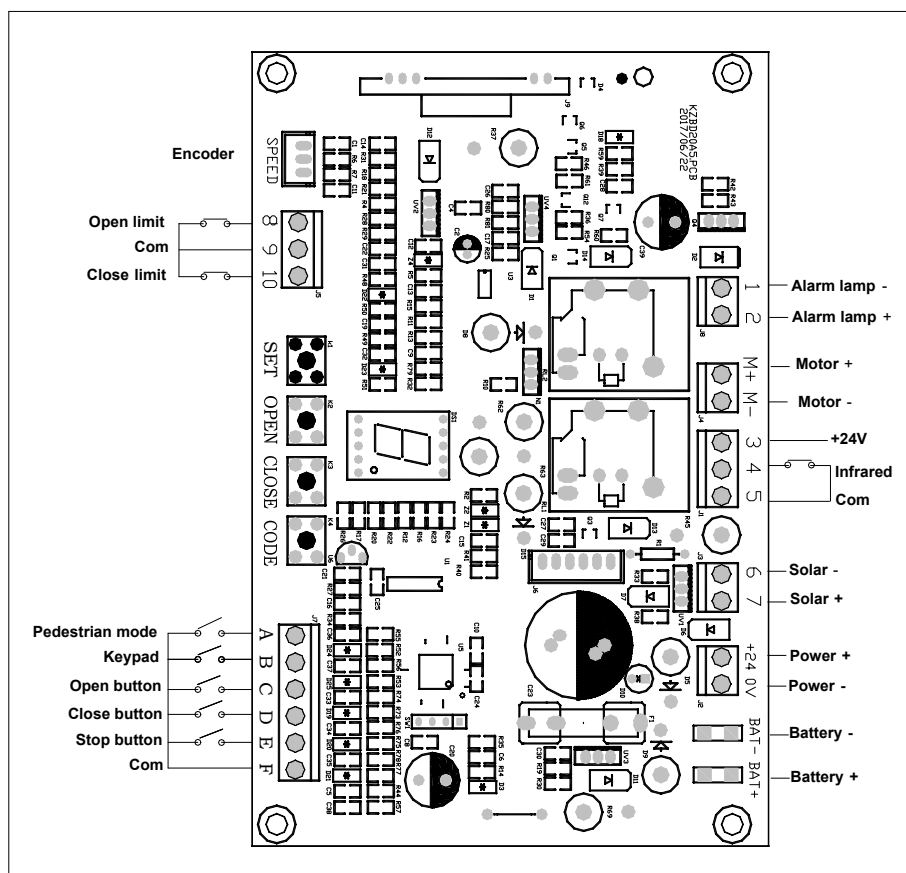

Fig.8 Control board
1. Press and hold **SET** (see Fig.8 control board) until number '1' is indicated on the LED display.
- Short the infrared terminal block (see Fig.8 terminal 4 and 5) if the gate only runs in open direction.